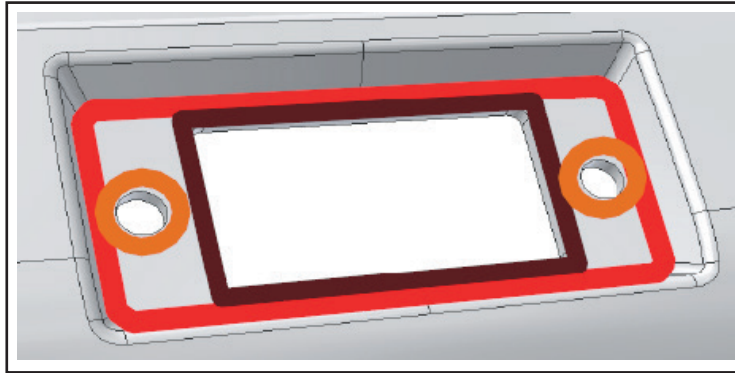

Figure 5 - Adhesive sealant application
- 1.21. Before installing the light, apply Dolchem adhesive sealant in the specified areas on the vehicle (See Figure 5).